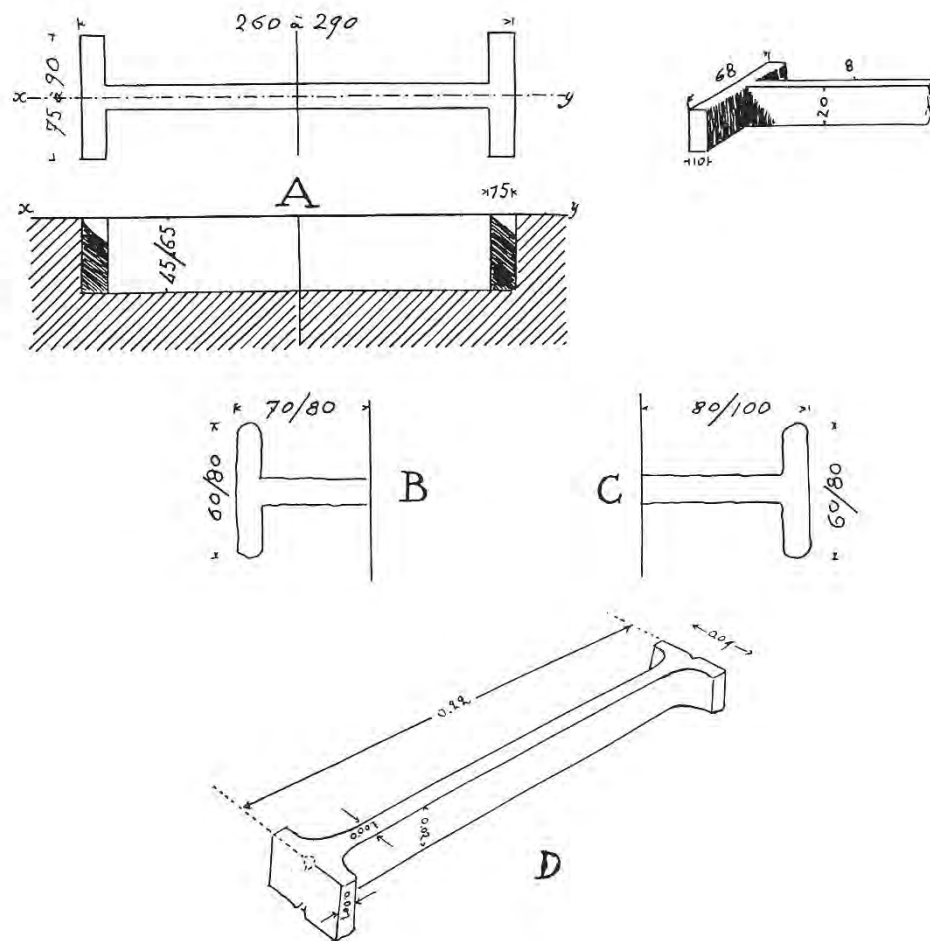

Fig.62. Double "T" metal connectors, Dēlos and Delphi, (Martin)
- Cramps or double-te, (Fig. 62)